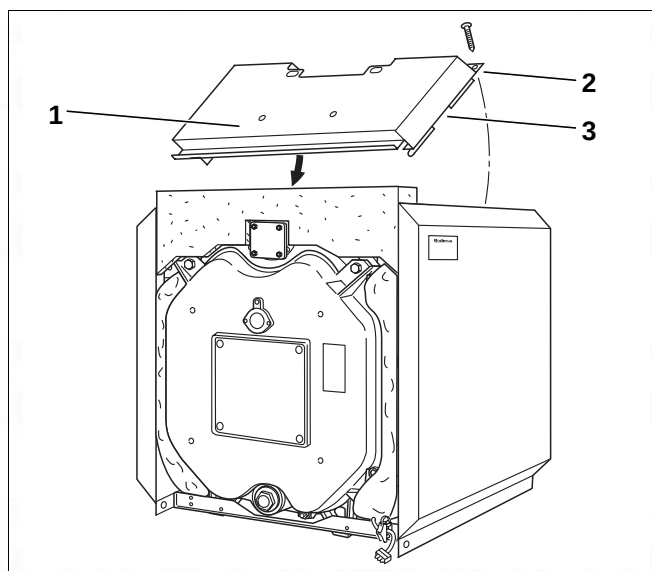

Fig. 36 Installation – front hood
- Place front hood (Fig. 36, [1]) between the side panels so the cut-out (Fig. 36, [3]) fits over the connection plate.
- Screw the rear hood to the side panels using one self-tapping screw per panel (Fig. 36, [2]).